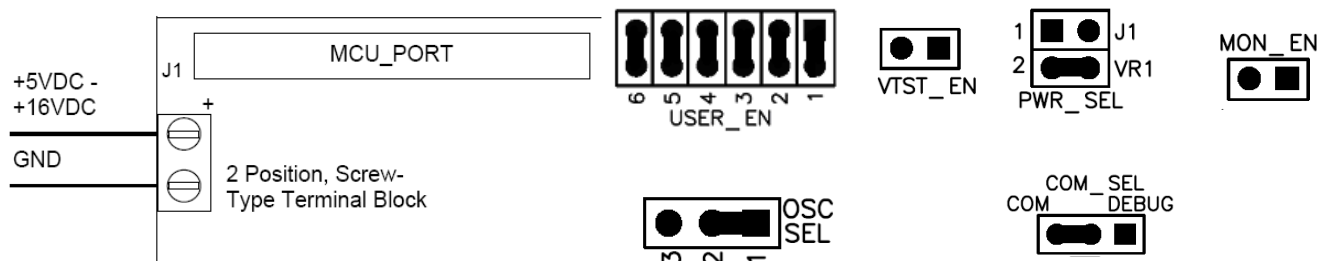

Figure 1. DEMO908AP64 Default Settings
Figure 1 shows the default settings for the DEMO908AP64 demo board. Please refer to the DEMO908AP64 User’s Guide on the Axiom CD for information on other configurations. All diagrams in this guide are oriented with the MON08 header in the upper left-hand corner. Black blocks indicate the “on” or “installed” position of jumpers. Please check the settings before continuing.
- Reinstall the jumpers to the default position. Refer to Figure 1.